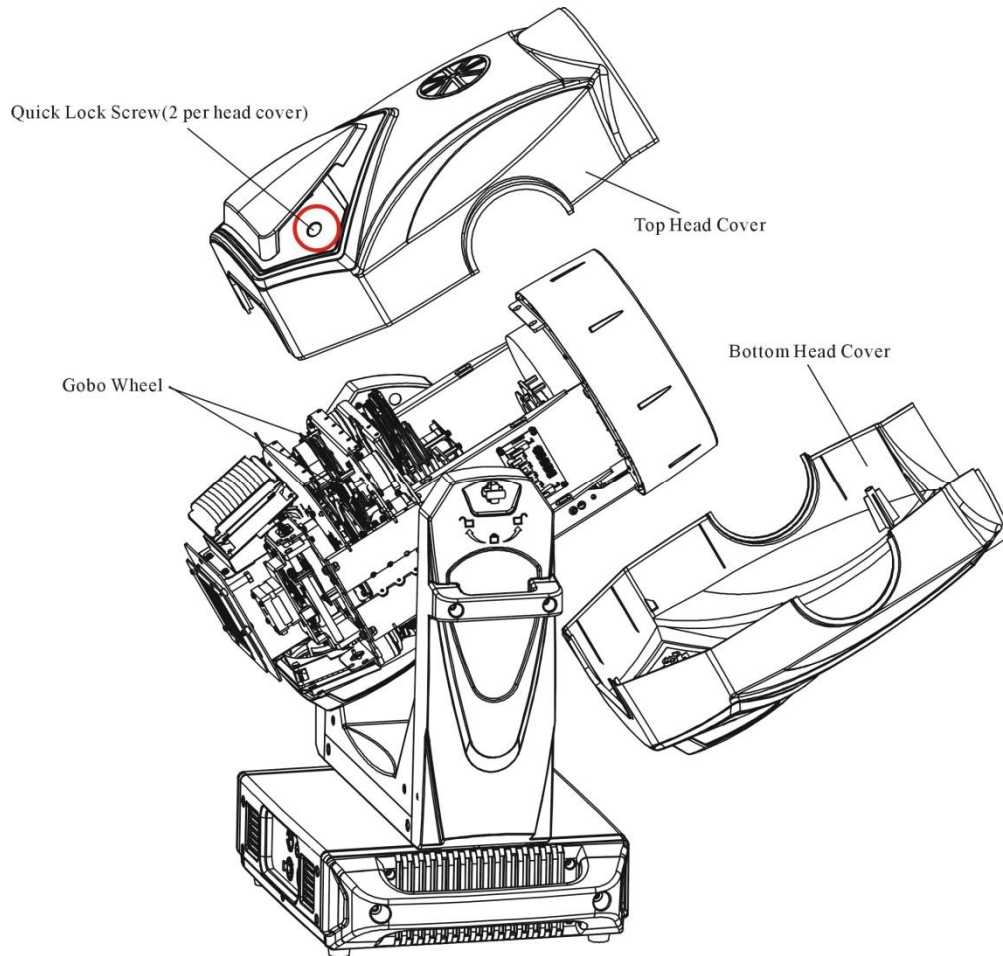

Figure A-2: Head Covers – Removal
Step 2: As illustrated in Figure A-2, remove top and bottom head cover by loosening four Quick Lock screws to access the gobos wheels.